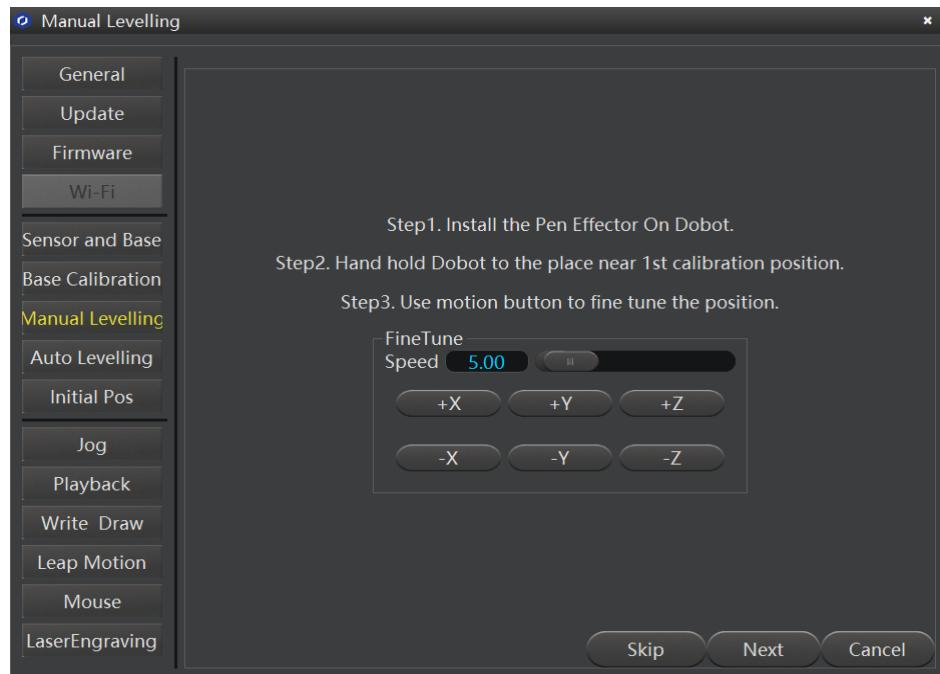
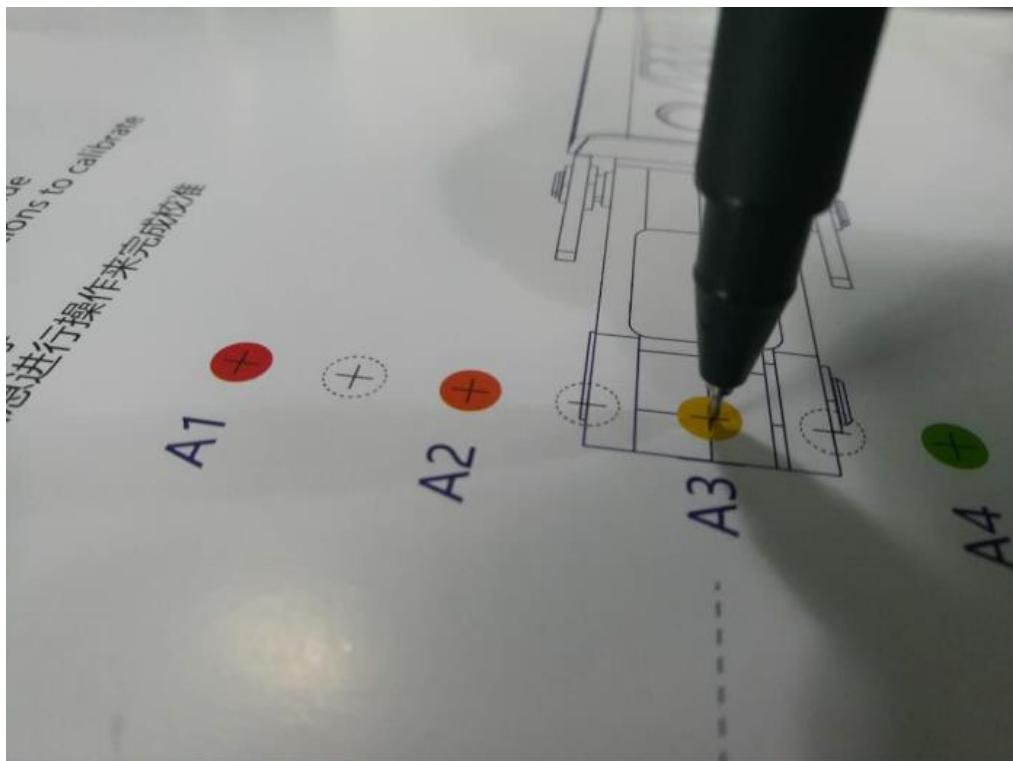

Figure 5.163 Fine-tune page
Figure 5.164 Nib position
3. Click coordinate buttons on the **Manual Levelling** page (as shown in Figure 5.163) to make the nib align to the center of A3 point on the calibration board, as shown in Figure 5.164.